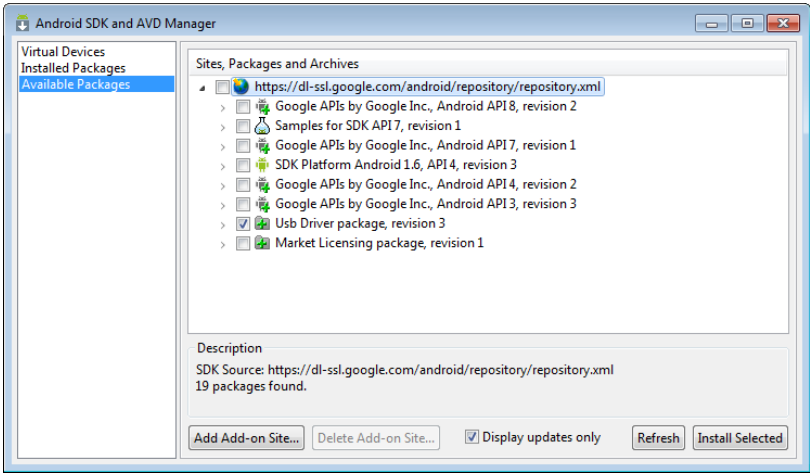

Figure 6-37. USB driver download package
4. Choose the USB Driver Package and click Install Selected (Figure 6-37). Then follow the prompts to install the driver.